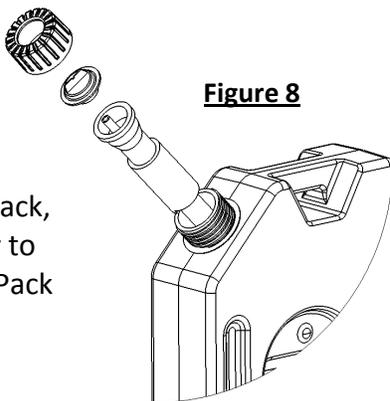

Figure 8
Step 1 – Untwist the cap and remove the Spout (see **Figure 8**).